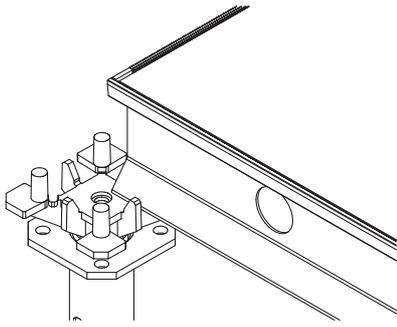

Fig. 14.7 - Prop - shoring head located where four boards contact each other
1. Position the ceiling props fitted with the heads with the head covers in (A0070000) the board corners (A0070005). Before the assembly of each prop you should pre-determine its basic height by using the G-hook lock inserted in the appropriate system hole of the upper and mobile pipe part. To precisely adjust the prop height you should use the nut which should be appropriately rotated. Then to protect the props against the possible falling you should use the tripods. The recommended ratio of the tripods installed to the number of props is 1:3. The props fitted with the head and the head cover (A0070005) should be used in the corners of the facilities erected. Figures 14.7, 14.8 and 14.9 show various application concepts.